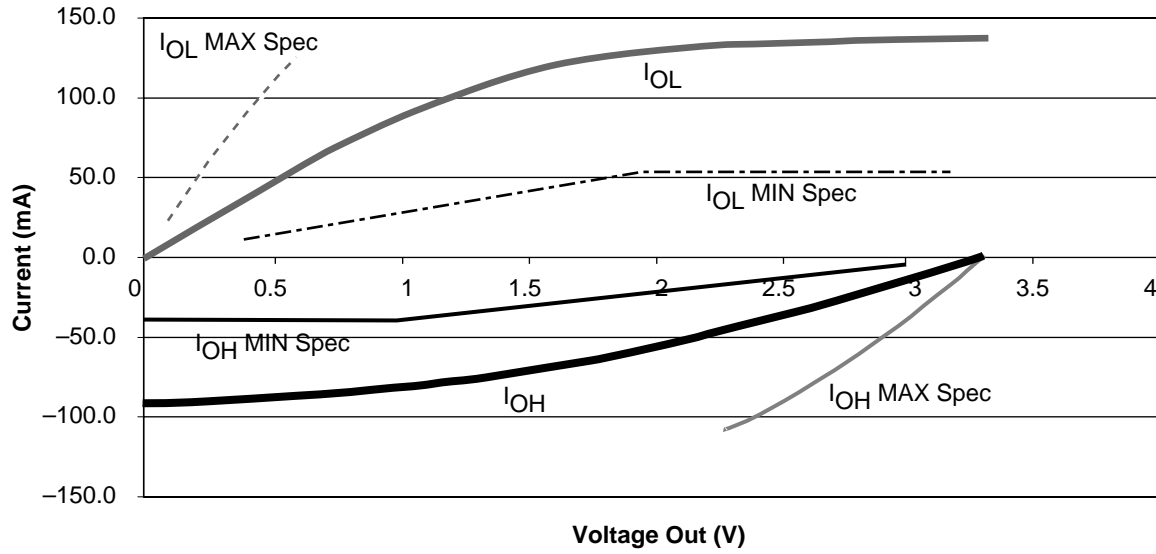

Figure 14 • 3.3V PCI V/I Curve for SX-A Family
1. Refer to the V/I curves in Figure 14 on page 20. Switching current characteristics for REQ# and GNT# are permitted to be one half of that specified here; i.e., half size output drivers may be used on these signals. This specification does not apply to CLK and RST#, which are system outputs. "Switching Current High" specifications are not relevant to SERR#, INTA#, INTB#, INTC#, and INTD#, which are open drain outputs.
2. Maximum current requirements must be met as drivers pull beyond the last step voltage. Equations defining these maximums (C and D) are provided with the respective diagrams in Figure 14 on page 20. The equation defined maximum should be met by design. In order to facilitate component testing, a maximum current test point is defined for each side of the output driver.
Figure 14 shows the 3.3V PCI V/I curve and the minimum and maximum PCI drive characteristics of the SX-A family.